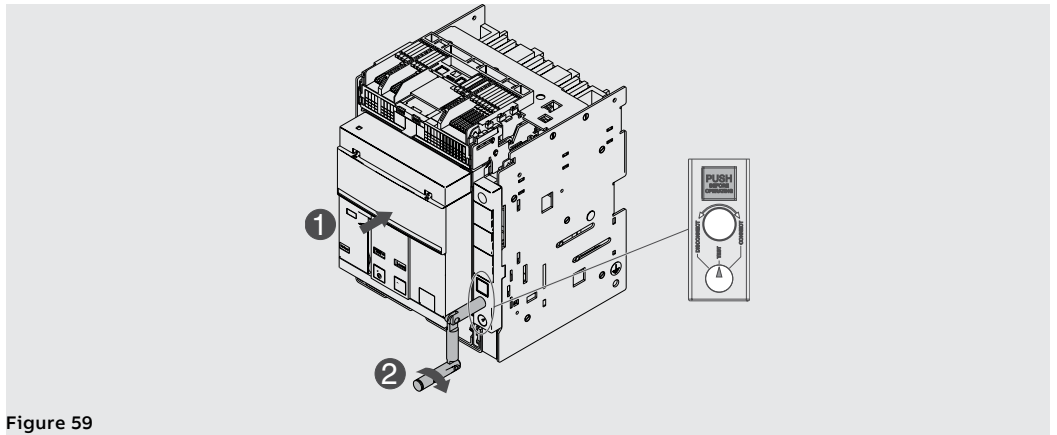

Figure 59
6. Keep breaker pushed. Turn the crank clockwise until the pushbutton comes out and the indicator shows that the circuit-breaker is in **TEST** position. See Figure 59.